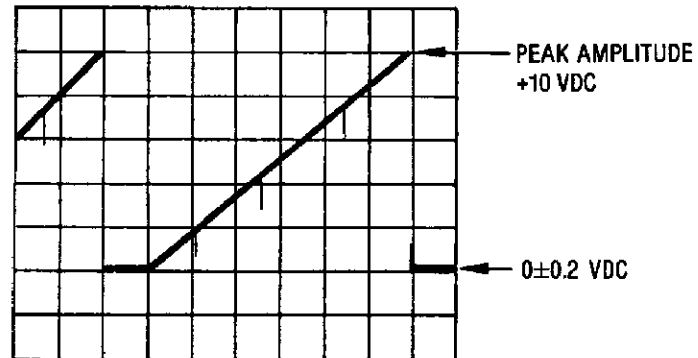

Figure 5-61. Sweep Out Waveform
8. Set the oscilloscope's trigger to channel 2 and set channel 2 vertical input for dc coupling. Adjust the oscilloscope for the display shown in figure 5-61.